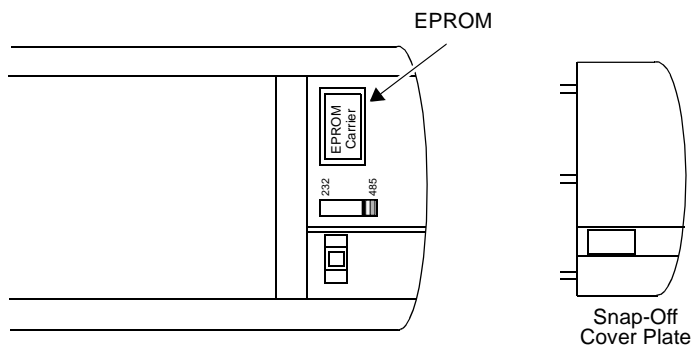

Figure 10. Replacing the EPROM
4. Remove the EPROM from its socket (see Figure 10).